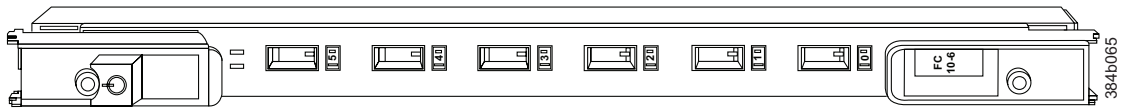

Figure 59. FC10-6 port blade, ports 0-5 from right to left
- Figure 59 on page 158 shows an FC10-6 port blade